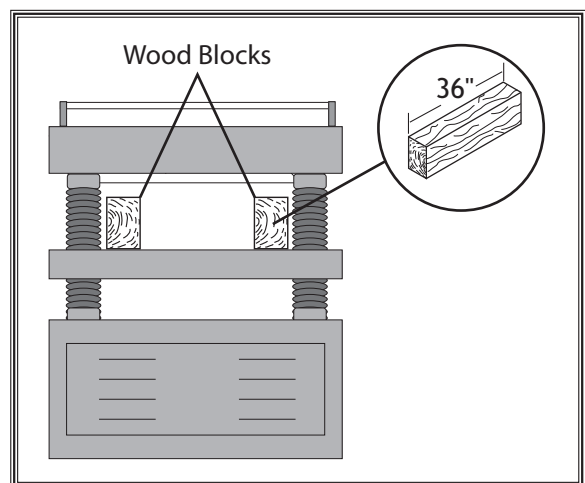

Figure 53. Wood blocks properly positioned on the planer table.
5. Place wood blocks along sides of table, as illustrated in Figure 53.